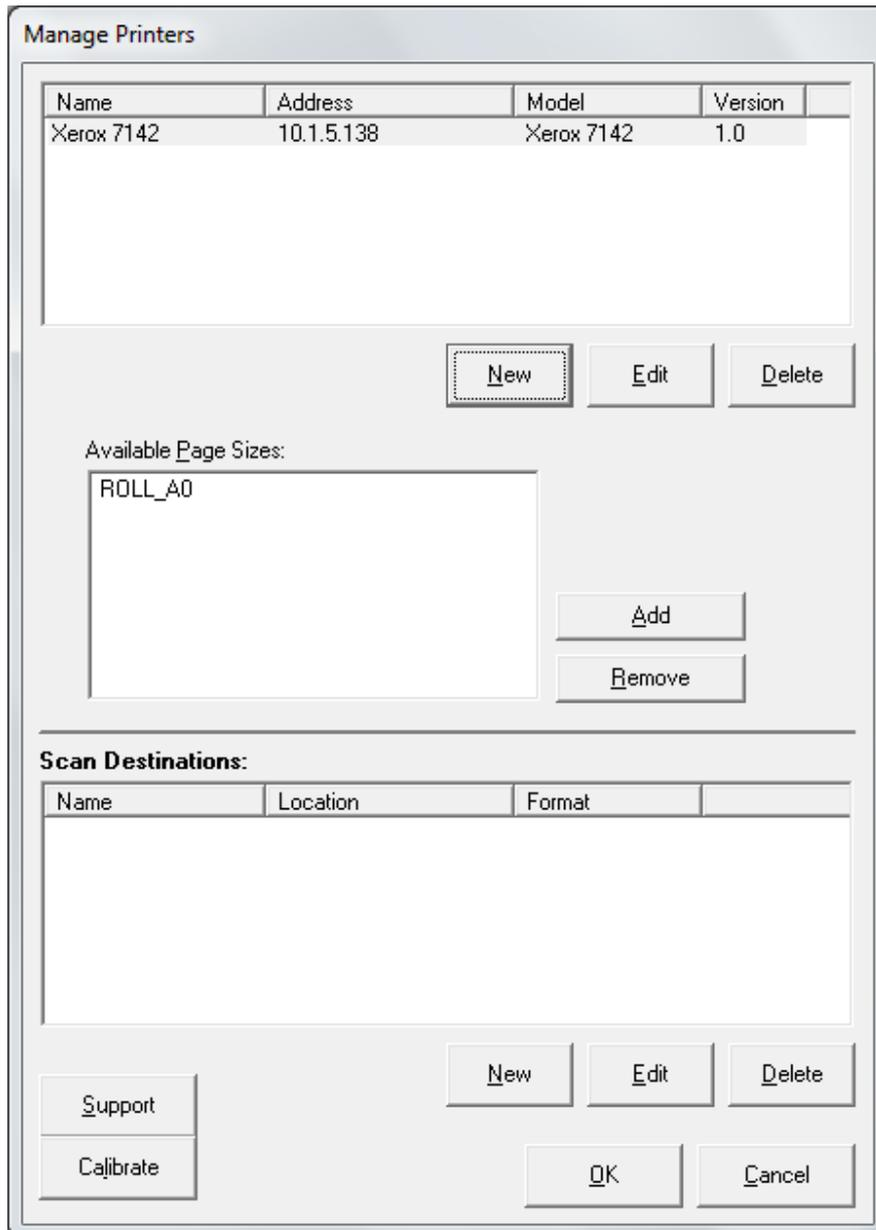

Fig 1-7
7. In **Add Printer**, click [OK] to return to **Manage Printers**, which will now display the installed 7142 printer and ROLL_A0 as shown below in Fig 1-7: